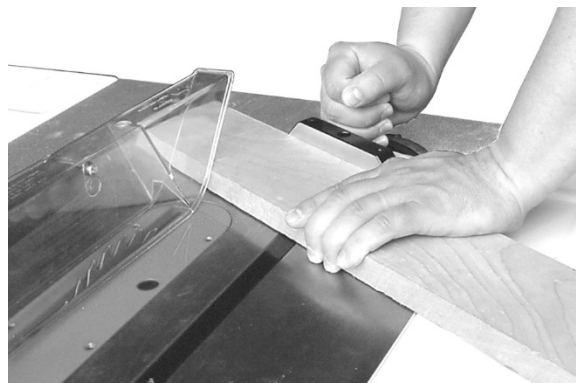

Figure 9-12
**Mitering** – Crosscuts made at an angle to the edge of the workpiece are called miters (Figure 9-12). Set the miter gauge at the required angle, lock the miter gauge, and make the cut the same as a normal crosscut except the workpiece must be held extra firmly to prevent creeping.